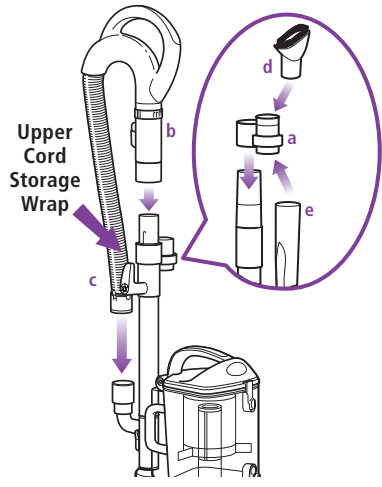

Fig. 9
- 4 Slide the accessory holder (a) positioned opposite the upper cord wrap, over the extension wand. Align the tab with the groove and push down. (Fig. 9)
- 5 Push the handle (b) onto the top of the extension wand until you hear it click into place. (Fig. 9)
- 6 Insert the end of the stretch hose (c) into the connector on the back of the detachable canister. (Fig. 9)
- 7 Store the dusting brush (d) and the crevice tool (e) on the mounts of the accessory holder. (Fig. 9)